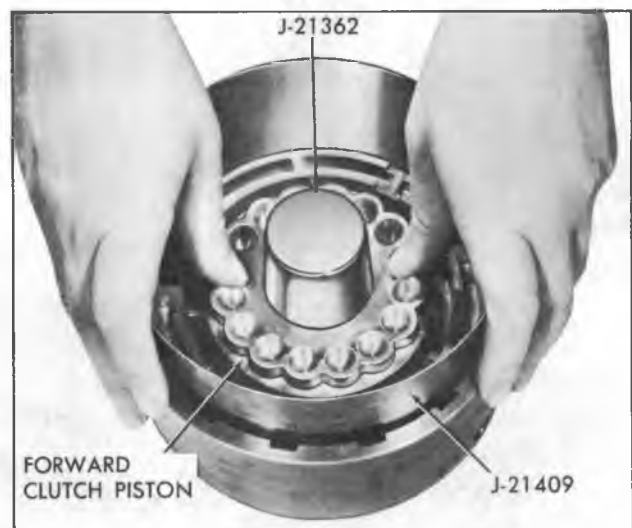

Fig. 74T-Installing Forward Clutch Piston
3. Place seal protector Tool J-21362, over clutch hub and install outer clutch piston seal Protector J-21409, into clutch drum and install piston, rotating piston on drum until seated (fig. 74T).
4. Install sixteen (16) clutch release springs into pockets in piston.